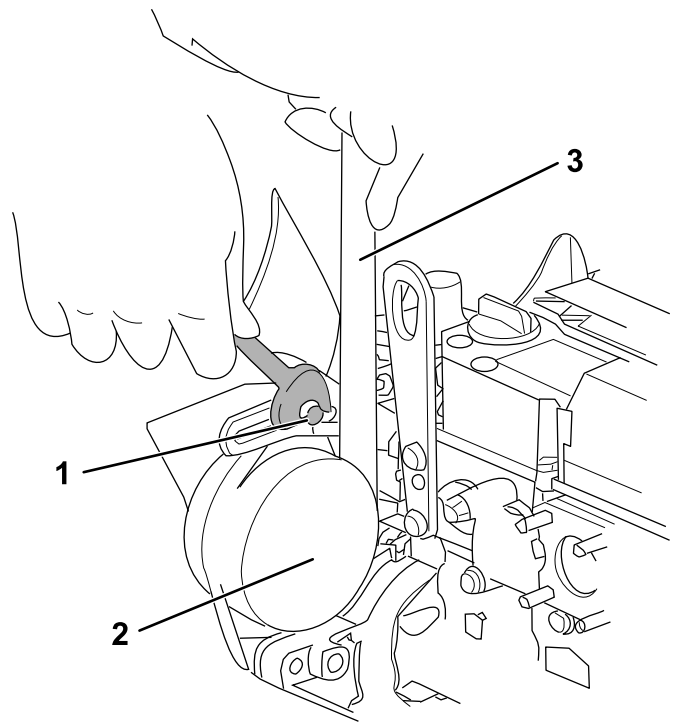

Figure 102
3. Loosen the adjusting bolts and nuts, then move the alternator using a wrench to tighten the belt to the correct tension (Figure 102).
4. Tighten the adjusting bolts and nuts (Figure 102).